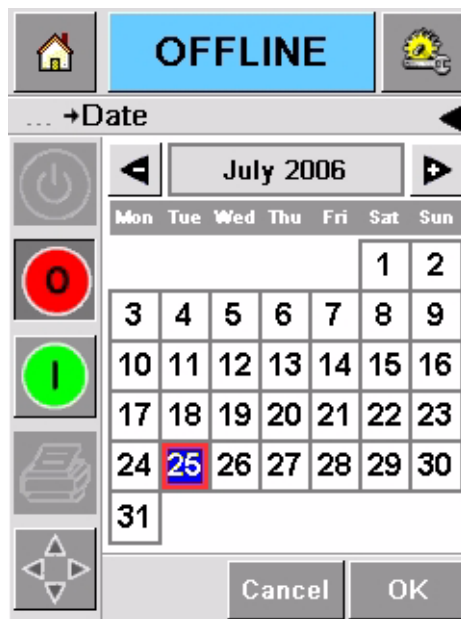

Figure 3-8: System Date Setup
- 5 Touch Date to set the Date, and the calendar page will appear, as shown in Figure 3-8 on page 3-7.